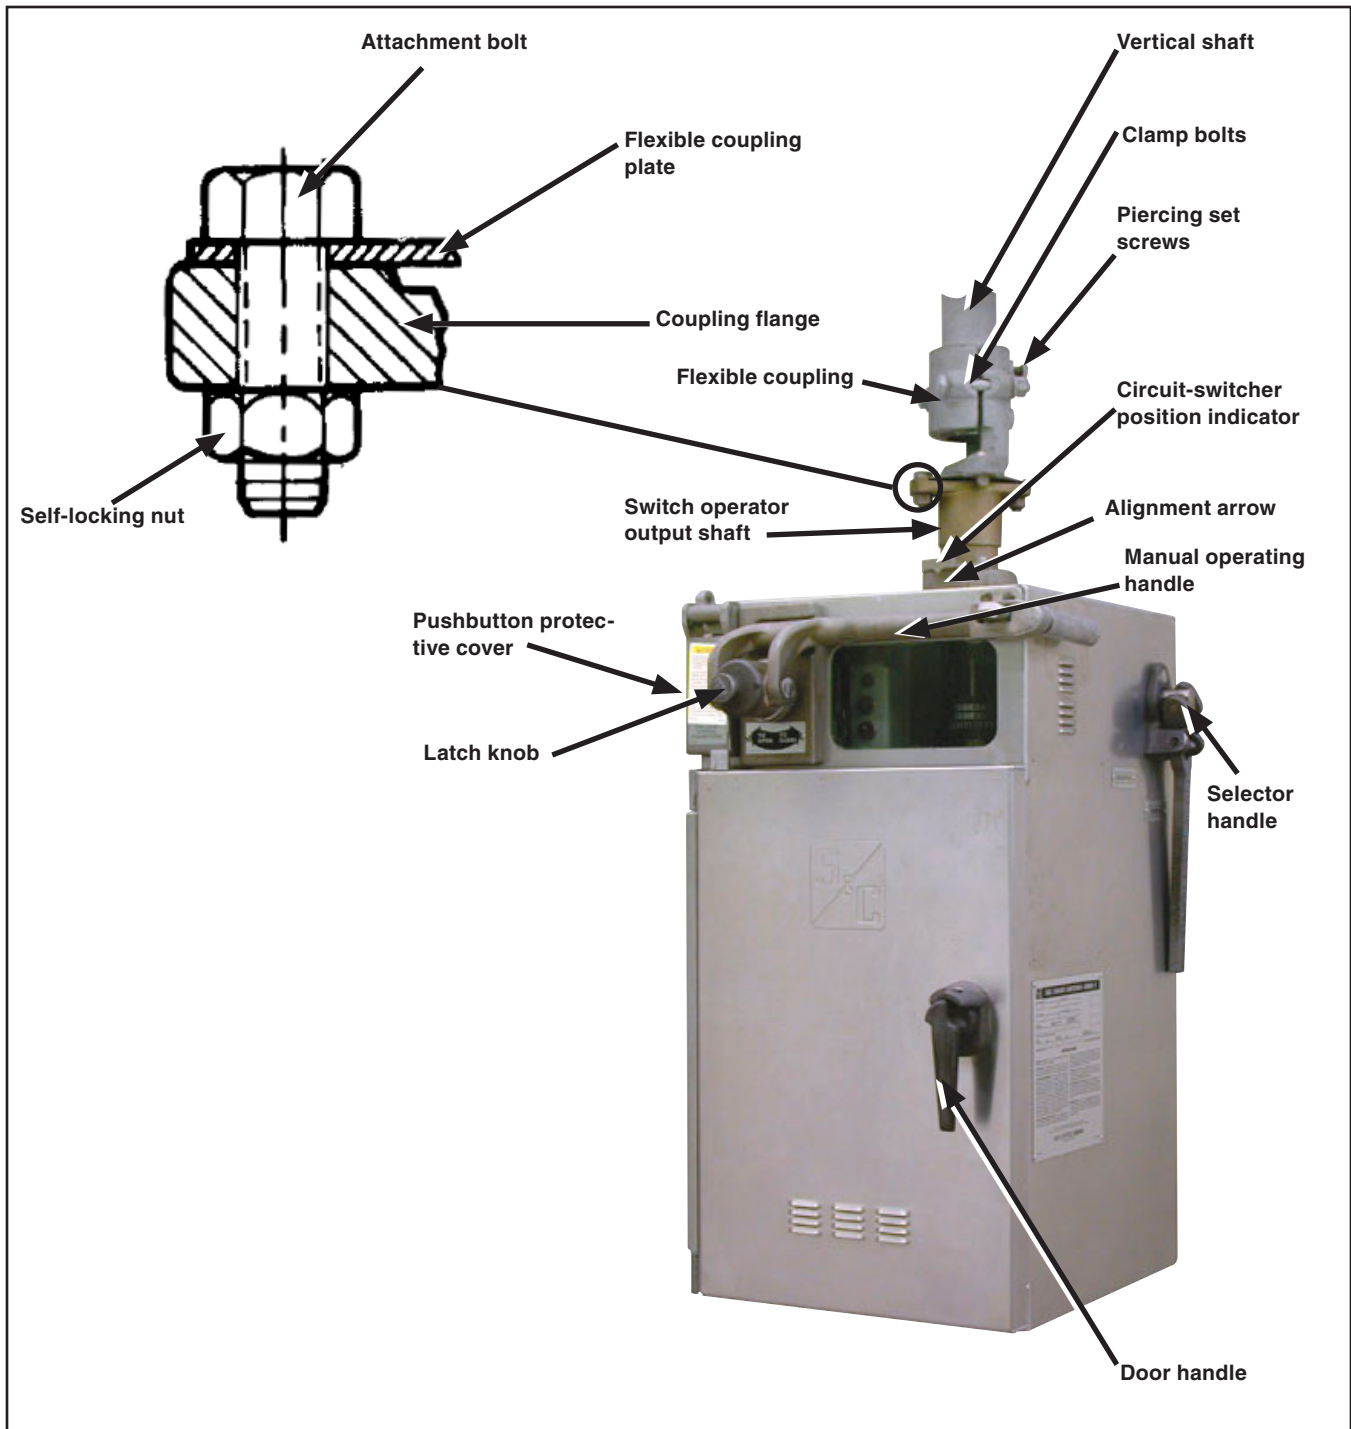
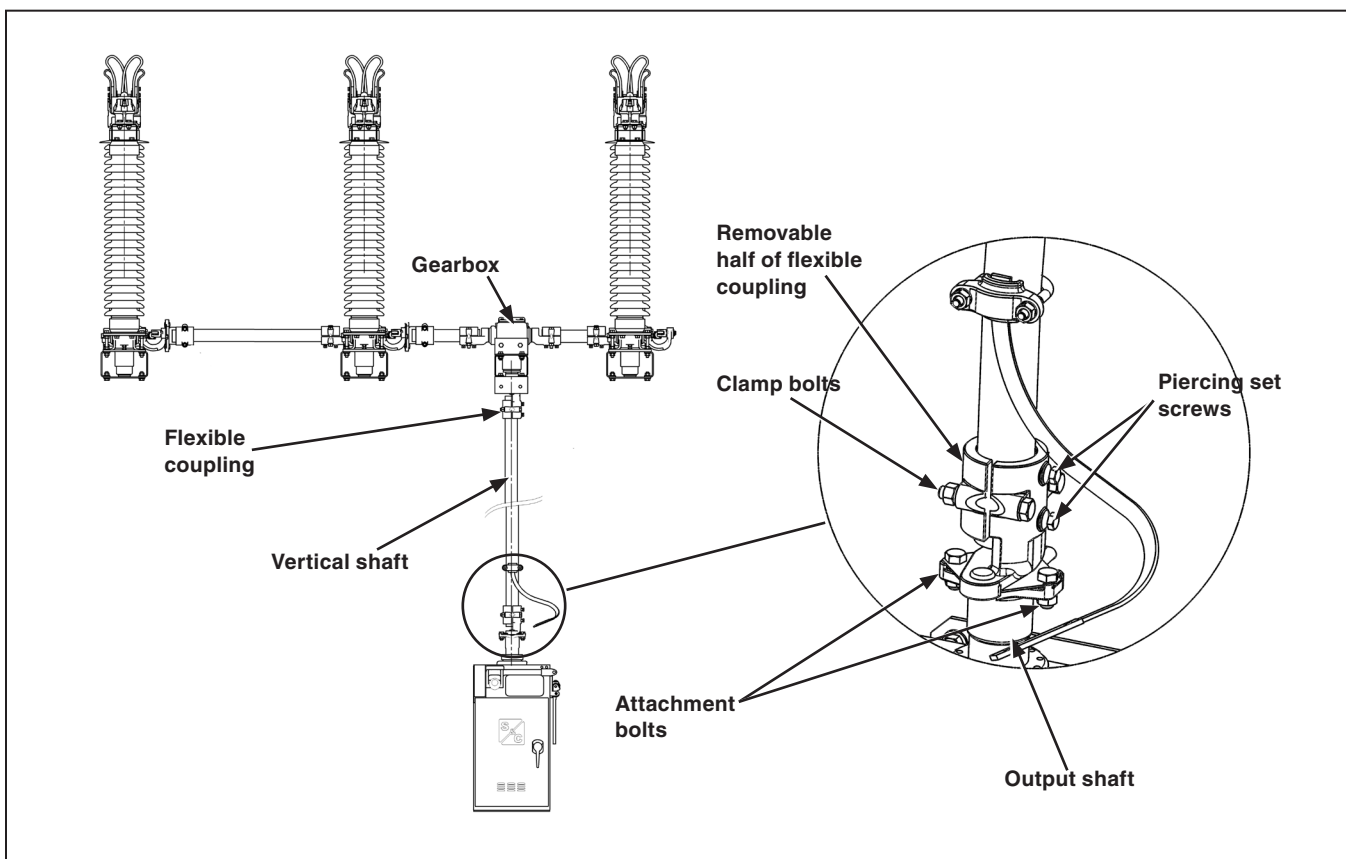
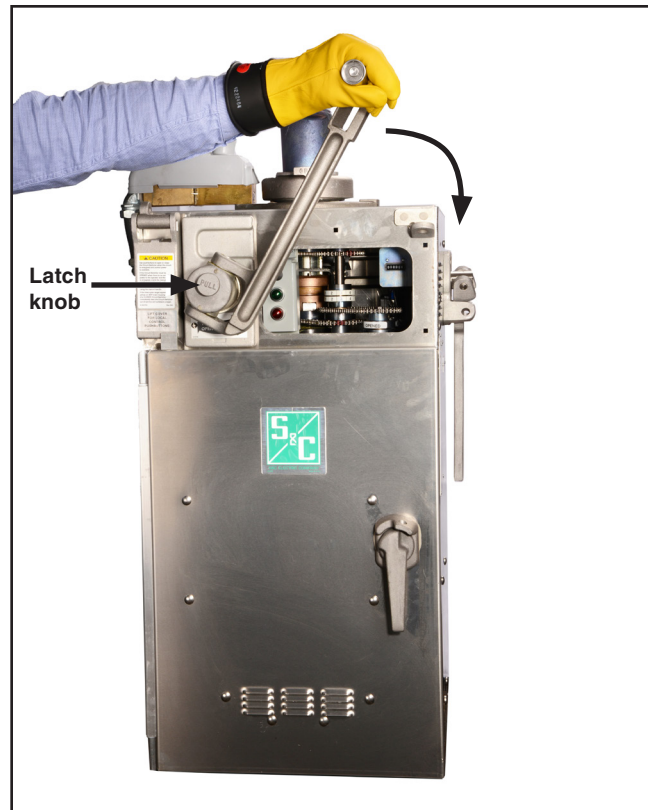

Figure 2. An external view of a Type CS-1A Switch Operator with the door closed.
Figure 4. The connection between the circuit-switcher gearbox and the Type CS-1A Switch Operator.
Figure 5. Manual operation of the operating handle.
The Type CS-1A Switch Operator is a high-speed operator expressly designed for power operation of the Mark V Circuit-Switcher. Use Table 1 to identify the associated wiring diagram that should be consulted for the model of switch operator being installed. Check the catalog number on the switch operator to see that it is the correct operator for the installation before starting the installation. Become familiar with the parts of the switch operator as shown in Figures 2 and 3 on pages 8 and 9 and Figure 4 on page 10.
- STEP 2.** Attach a flexible coupling to the output shaft of the switch operator. See Figure 2 on page 8 and Figure 4. Thread the attachment bolts through the flexible coupling plate and through the coupling flange on the output shaft. Tighten the bolts to draw the flexible plate flush against the flange; this will deform the threads in the flexible plate, resulting in a binding, nonslip connection. Install and tighten the self-locking nuts. Do not use lockwashers with the attachment bolts.
- STEP 5.** Install the vertical shaft between the flexible coupling that is attached to the shaft extending from the gearbox on the circuit-switcher pole-unit base and the flexible coupling attached to the switch operator output shaft. See Figure 4. At the gearbox end of the vertical shaft, tighten the flexible coupling clamp bolts equally so the clamp pulls down evenly. Then, tighten the associated piercing set screws, piercing the shaft, and continue turning until a firm resistance is felt.
- STEP 2.** Release the latch knob while continuing to pivot the handle forward to lock it into the cranking position. See Figure 2 on page 8 and Figure 5. (As the handle is pivoted forward and the motor brake is mechanically released, both leads of the control source are automatically disconnected and both the “opening” and “closing” motor contactors are mechanically blocked in the **Open** position. However, the shunt-trip device, when this option is provided, remains operative unless the switch operator is in the **Open** position.)